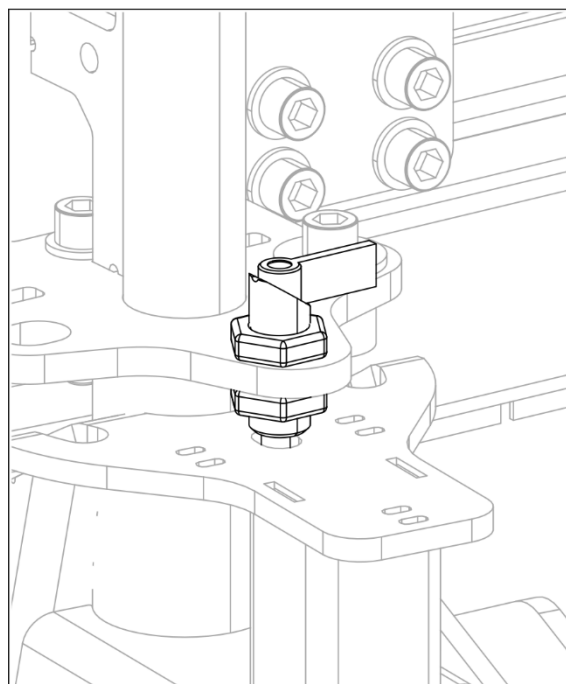

Figure25 : Locking bolt, locked
3. Lock the locking bolts on the undercarriages, see figure 25.